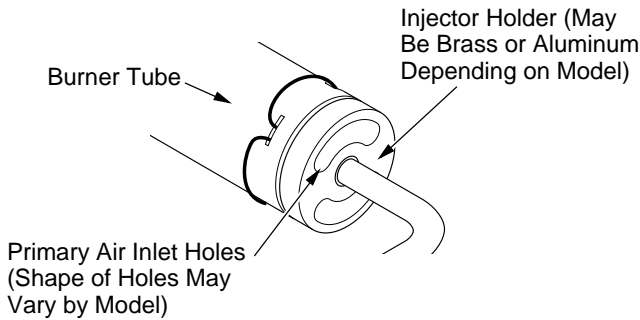

Figure 29 - Injector Holder On Outlet Burner Tube
3. Inspect burner, pilot, and primary air inlet holes on injector holder for dust and dirt (see Figures 29 and 30, page 19).